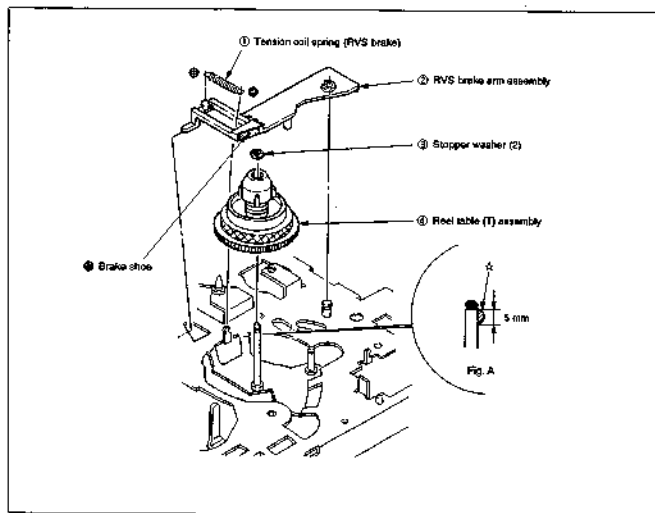

Fig. 3-14
3-12. RVS BRAKE ARM ASSEMBLY, REEL TABLE (T) ASSEMBLY (Fig. 3-14)
- 3) Remove tension coil spring ① in the order ⑥ to ⑤.
- 4) Remove RVS brake arm assembly ②.
- 5) Remove stopper washer (2) ③ to pull out reel table (T) assembly ④.